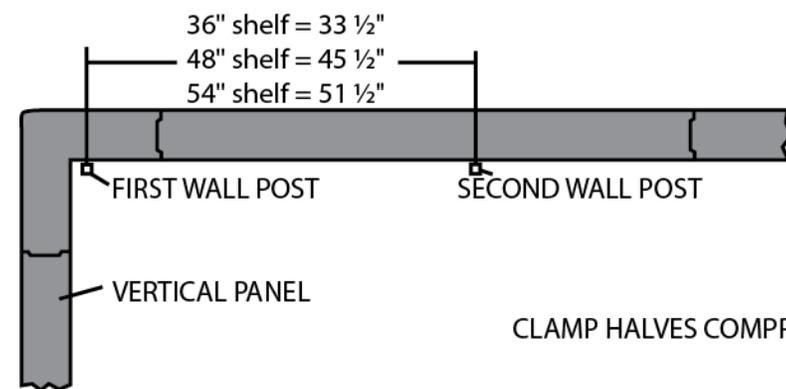

FIGURE 5
3. Determine position of second shelf post. See Figure 5.